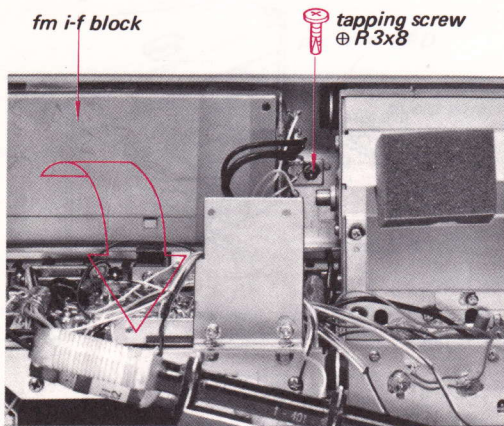

Fig. 2-11
2. Remove the screw shown in Fig. 2-11 and remove the fm i-f block in the direction shown by the arrow.